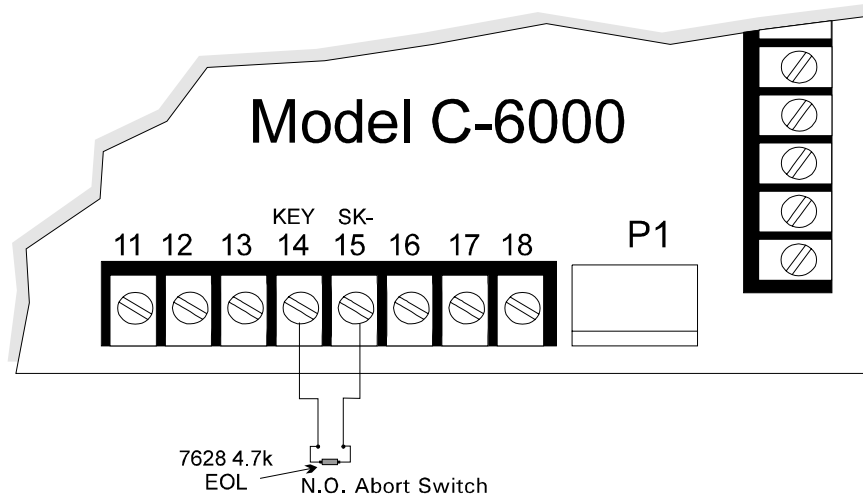

Figure 3-26. Wiring an External Abort Switch
1. Wire as shown in Figure 3-26 (next page).